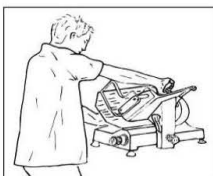

Fig. 3
2. Turn the unit on by pressing the **START** button (10). Leave the device on for 2-3 minutes in order to make sure it operates correctly. Turn the device off by pressing the **STOP** button (10).
3. Set the slice thickness adjustment knob (8) to '0' position.
4. Lift the pusher handle (4) and place the food to be sliced on the food carriage tray (5) so that it will be between the regulator plate (12) and the pusher handle (4).
5. Adjust **slice thickness**: turn the thickness adjustment knob (8) counterclockwise you reach the desired position.
In order to avoid an accident, assume correct stance from the meat slicer (**fig. 3**). Put right hand on the pusher handle, and left hand next to the slice tray (11) so as not to touch the blade.